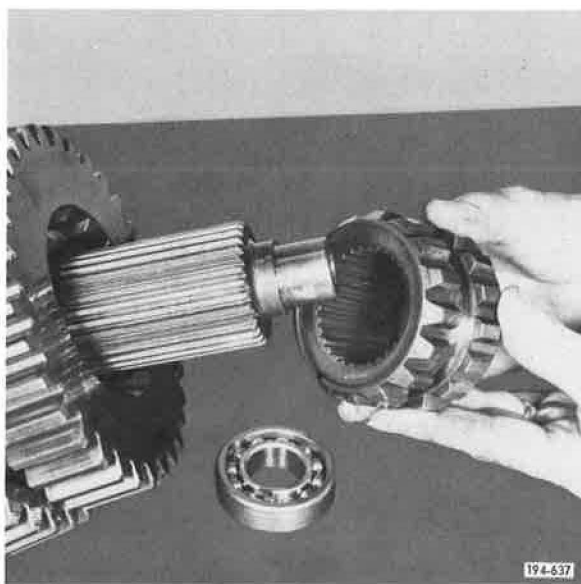

Figure 118. Removing Clutch
3. Remove fourth/fifth speed sliding clutch. See Figure 118.